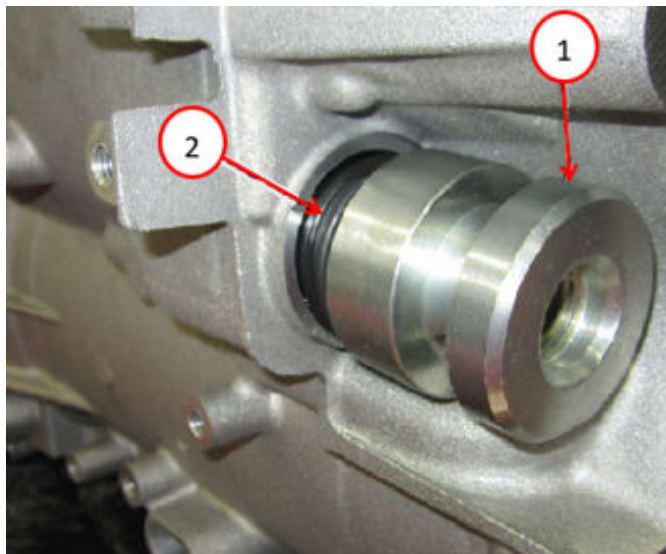

Fig. 43
64. Using Guide Sleeve 10377, carefully install the electrical harness guide sleeve into the transmission case Fig. 43.